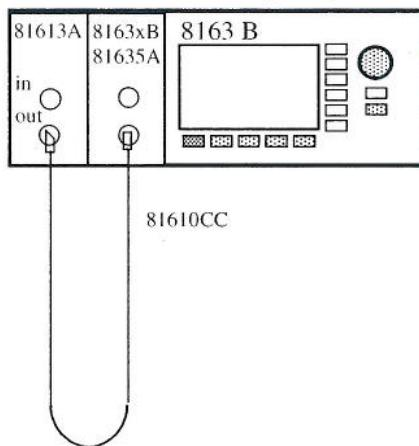

Figure 6 Return Loss Measurement Setup
- 2** Set up the equipment as shown in Figure 6.